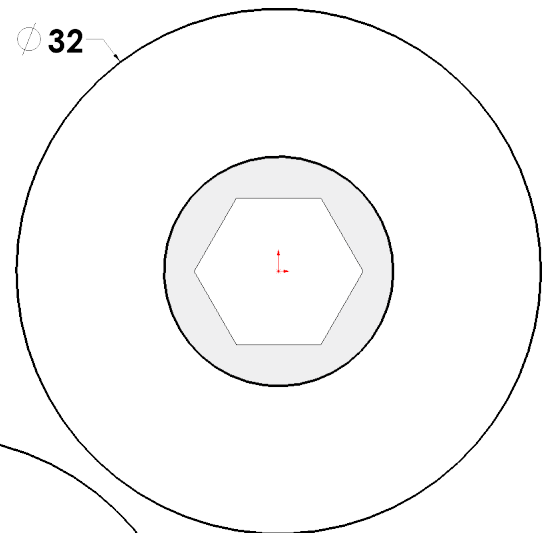

Fig. 11
Step 5. Click **Circle**  (S) on the Sketch toolbar.
Step 6. Sketch **circle** starting at the Origin , **Fig. 11**.
Step 7. Click **Smart Dimension**  (S) on the Sketch toolbar.
Step 8. Dimension **diameter 32**, **Fig. 11**.